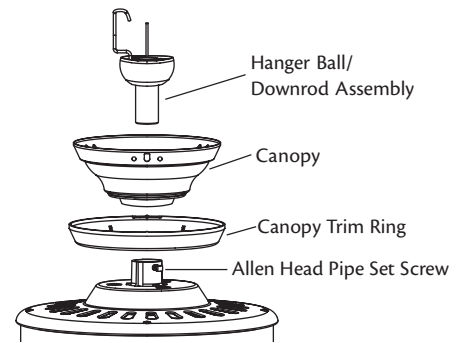

Figure 12 - Assembling the downrod
- Insert the downrod through the canopy and canopy trim ring as shown in Figure 12. Feed wires from the fan through the downrod.
- Screw the downrod into the fan assembly until tight. **IMPORTANT!** Tighten allen head set screw as shown in Figure 12 with the included allen wrench.
- Completely remove the allen head pipe set screw (identified in Figure 12) from the fan adapter.